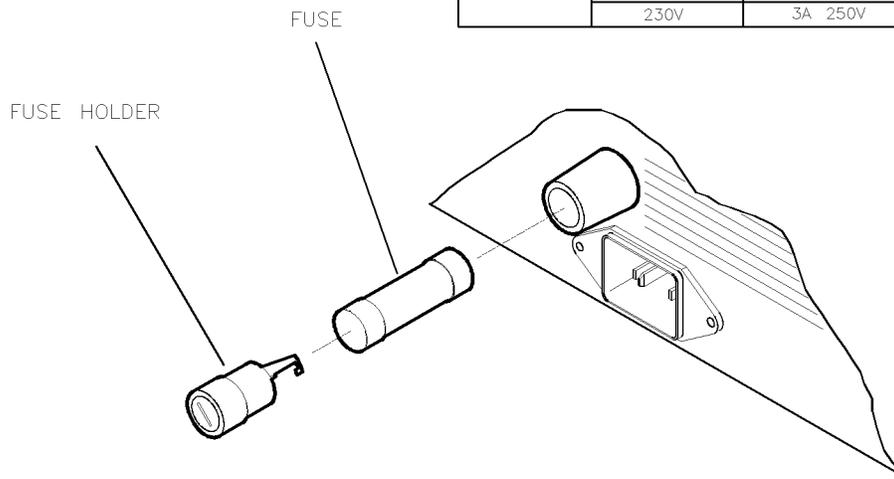

Figure 10-2. Replacing the Line Fuse
3. Refer to Figure 10-2. Using a small flat-blade screwdriver, rotate the fuse cap counterclockwise, and remove the fuse holder.
WARNING For continued protection against fire hazard replace line fuse only with same type and rating (refer to Figure 10-2). The use of other fuses or material is prohibited.